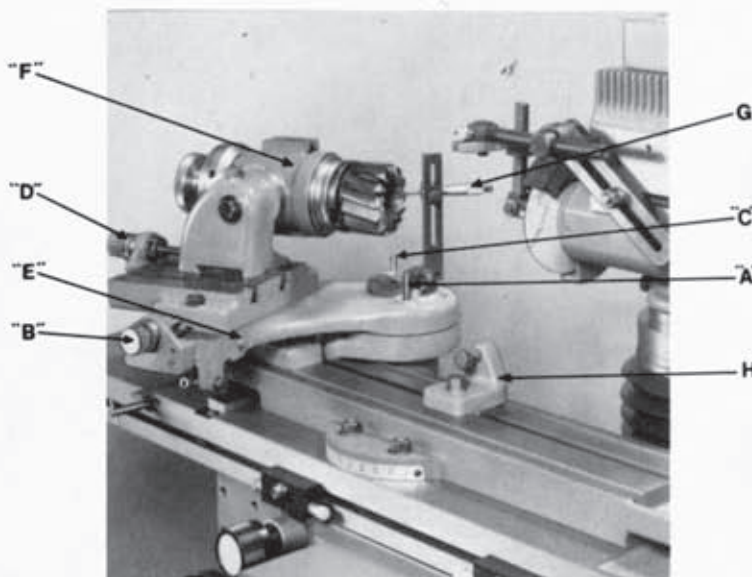

Figure 29/4 Functional Diagram — No. 2 Radius Grinding Attachment
#### 4.13.2 No. 2 Radius Grinding Attachment (Fig. 29/4)
However, larger radii can be ground by adjusting the attachment slides beyond the range of the micrometer. The cutter can be ground while mounted in the attachment as illustrated in Fig. 29/4. The periphery, radius and face grinding operations of the cutter can all be performed with the same setup. In this way, an accurate radius and perfect blend will be obtained. Assuming we are going to grind a 6.35 mm (¼ in.) radius on a 150 mm (6 in.) diameter shell end mill, proceed as follows:
#### Key to Figure 29/4
6. **Positioning Cutter for Radius.** Stop machine, move cutter away from grinding wheel using machine controls, and back up attachment slides far enough to allow micrometer gauge to be mounted in tapered hole of attachment. Tapered hole should be thoroughly cleaned before using micrometer gauge. Locate against stop pin "A" (Fig. 29/4). Set micrometer barrel to proper height (use centering gauge) and adjust to desired radius (for a  $\frac{1}{4}$  in. radius set micrometer at 0.250 in.). Turn crank "B" until periphery of cutter contacts spindle of micrometer (Fig. 29/4). Set graduated dial on crank "B" to zero and lock. Turn micrometer gauge 90 degrees against other stop pin "C" (Fig. 29/4). With micrometer still set at 0.250 in., turn crank "D" until face of cutter contacts micrometer spindle. Set graduated dial on crank "D" to zero and lock. Remove micrometer gauge and replace with tapered plug.
7. **Positioning Table and Saddle.** Loosen screw on rear of base plate swivel trunnion and position table and saddle of machine so point of cutter tooth swivels on tooth rest blade directly in front of grinding wheel (Fig. 29/4). Set left hand table dog so table cannot be traversed further to the right.
9. **Grinding Radius and Face.** Do not move saddle handwheel except to compensate for wheel wear. Back off crank "D" a few turns and loosen base plate and workhead spindle locking screws. Mount and position adjustable stop bracket on table of machine so knurled screw will contact button "E" in attachment (Fig. 29/4). With cutter tooth on tooth rest blade, swivel attachment 90 degrees and feed in with crank "D" until the cutter contacts the grinding wheel. Grind all teeth at this setting. After all teeth are ground, rotate cutter 180 degrees from first tooth and move in with crank "D" a small amount.